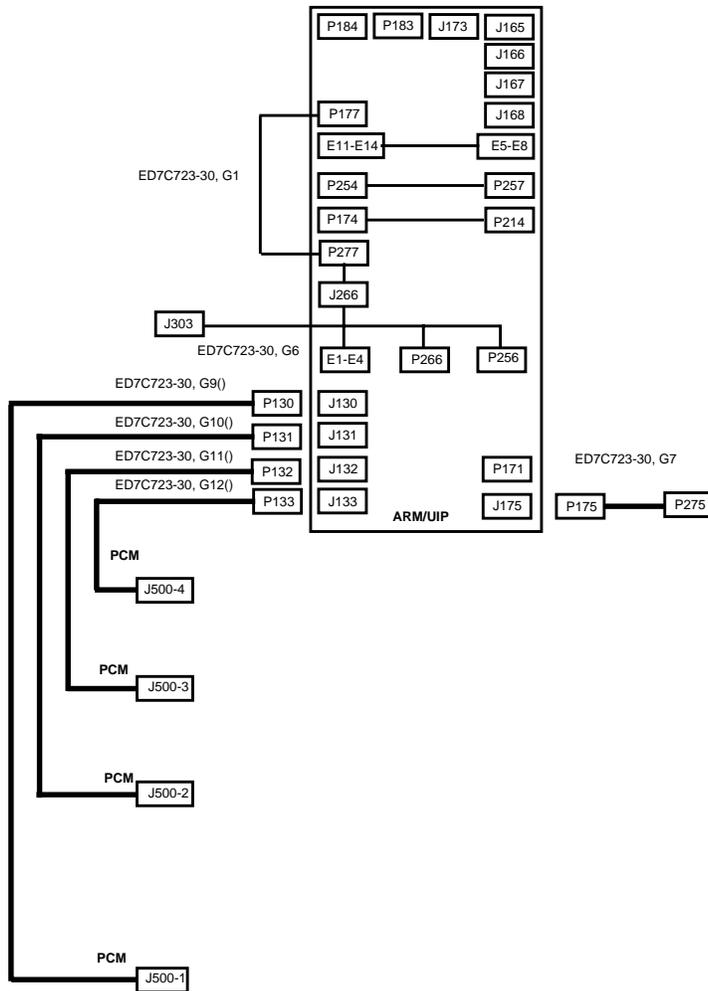

Figure 3-7. ARM Shelf Cable Assemblies
Step 1: Verify that each shelf has been provided with its standard and optional cable assemblies and that the connectors have been routed to the appropriate cable duct (right or left). Refer to the following table and Figures 3-7 and 3-8.